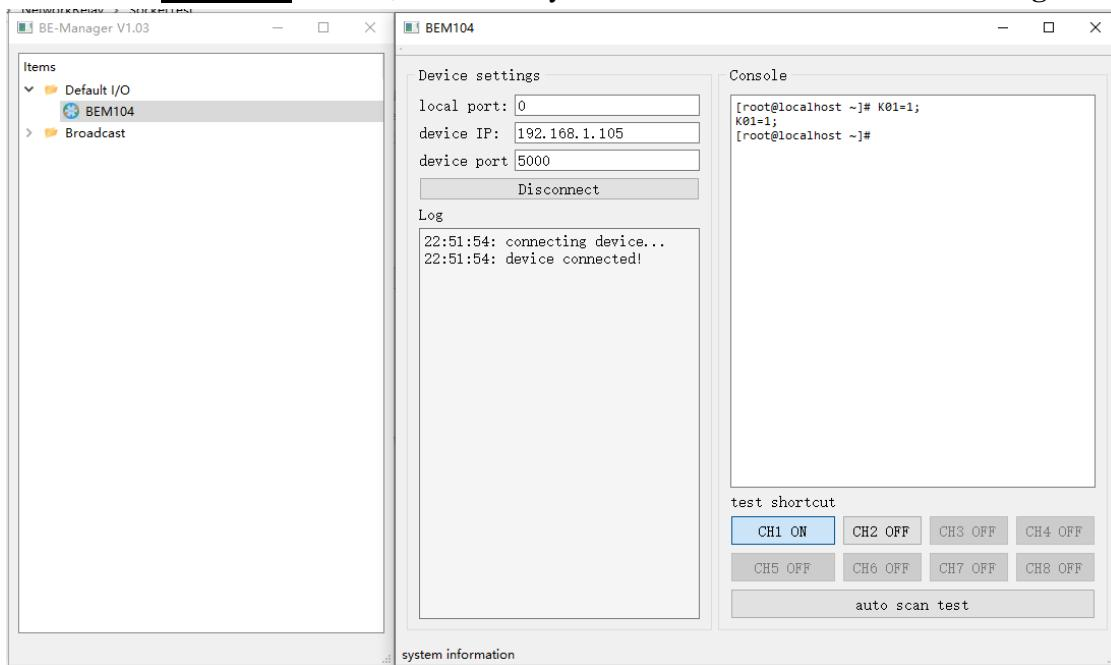

Fig.1.3
3. Click "Connect" button, and wait for module connected. Then, it is able control the relay module. Click "CH1 OFF" button, and the relay channel 1 will be switched on. See **Fig.1.3**